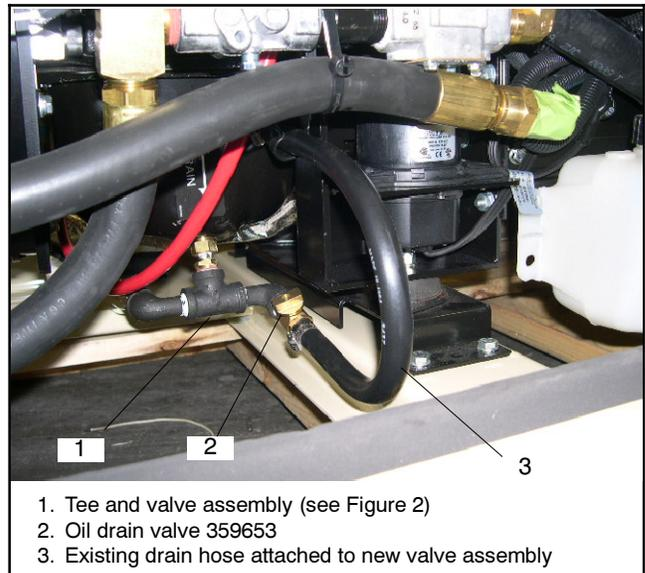

Figure 4 Oil Drain Valve and Hose
- b. Install the two elbows, X-274-6, onto the tee. Direct the elbows to the sides as shown in Figure 4.
7. Connect the existing drain hose to the new valve assembly. See Figure 4.